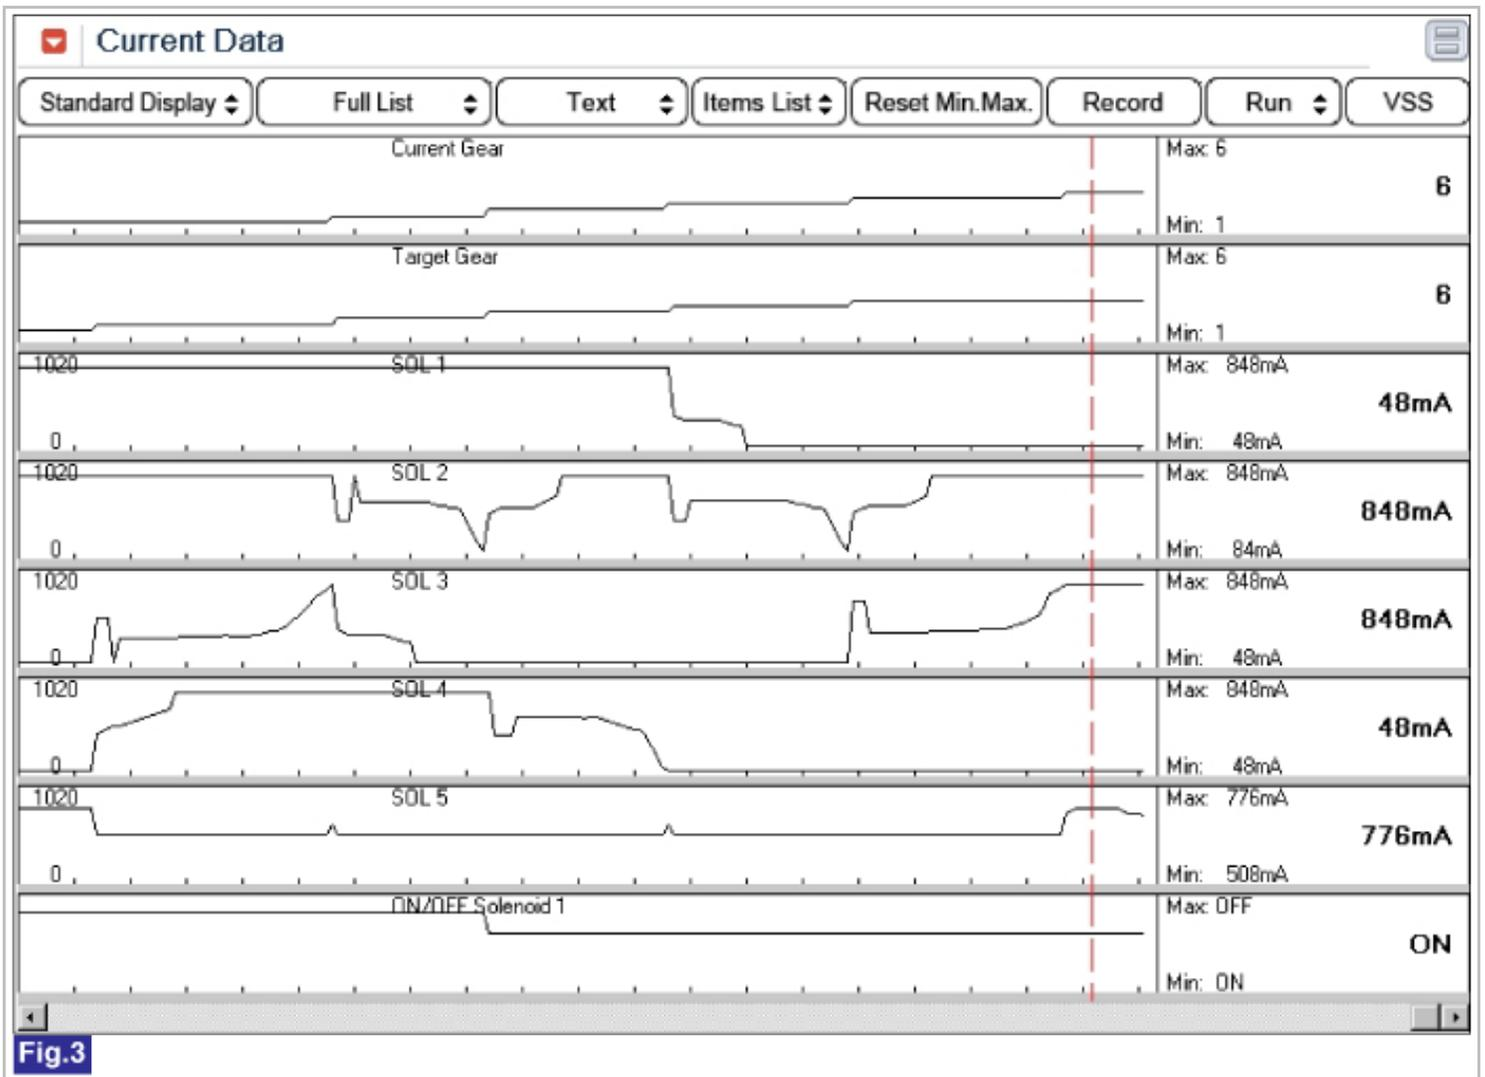

Fig.3
- Fig 3) Solenoid operating status - D1 gear to D6 gear